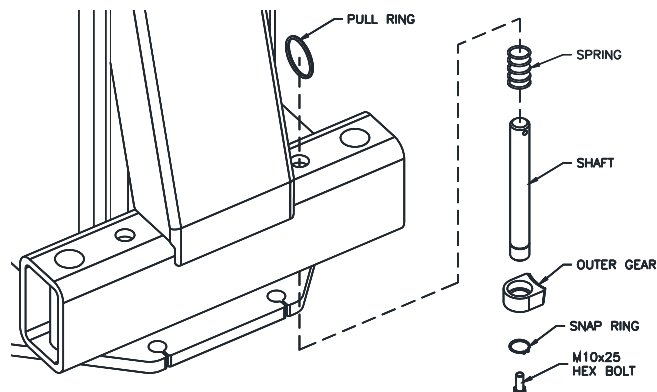

Fig. 19-Arm Restraint
- 59) Arm restraint assemblies should be installed on carriage as shown in **Fig. 19**.